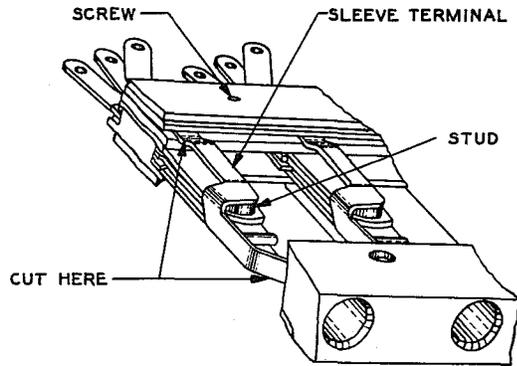
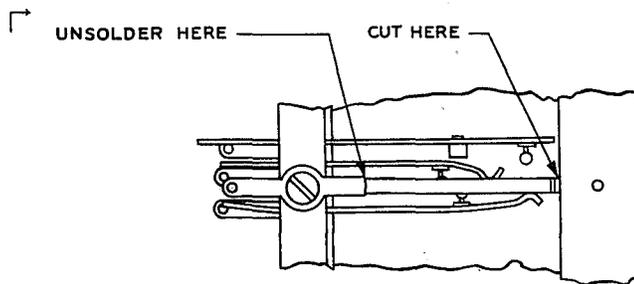

Fig. 3 - Points at Which To Cut Sleeve Terminals in 92- and 292-type Jacks
Fig. 4 - Points at Which to Cut and Unsolder Sleeve Terminals in 229-type Jacks
3.06 Hold the jack strip in a horizontal position with the sleeve terminal up-permost. On 92 and 292 jacks, cut the sleeve terminal just in back of the rubber mounting and also just in front of the assembly mounting with the diagonal pliers, as indicated in Fig. 3. Remove the free portion of the terminal and the stud with the longnose pliers. On 229-type jacks, the sleeve terminal should be cut just in back of the rubber mounting and the joint unsoldered between the sleeve terminal and the terminal lug as indicated in Fig. 4. When cutting, hold the pliers at right angles to the flat portion of the spring and hold the thumb or finger over the part being removed, to prevent its flying.